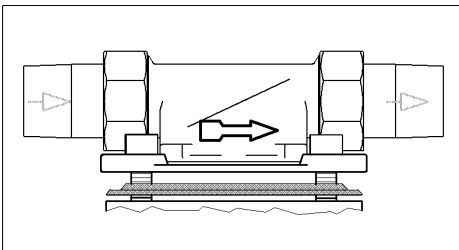

Fig. 1: Built-in rotary flange
- Direction of flow (see fig. 1)